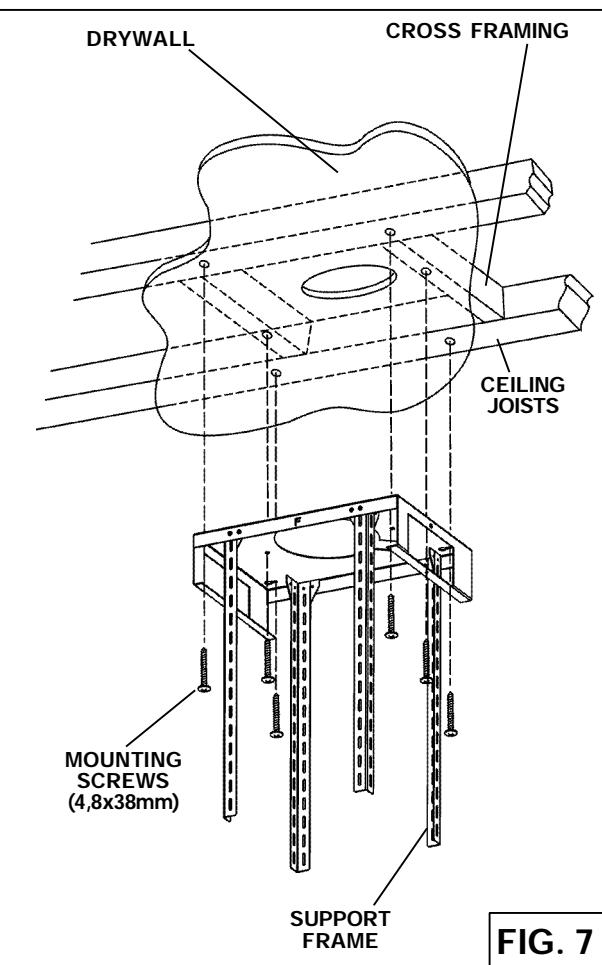

FIG. 7
- Adjust the overall height using the chart below of the support frame. Loosen and retighten the 4 screws in the **height adjustment slots** as necessary. Insert 12 screws (3.9x6mm) (Fig.7). Make sure this a 4" min. overlap between the upper & lower support legs.
- Secure the support frame to joists and cross framing with six (6) screws provided (4.8x38mm). Make sure screws are driven into center of joists and framing for maximum strength.